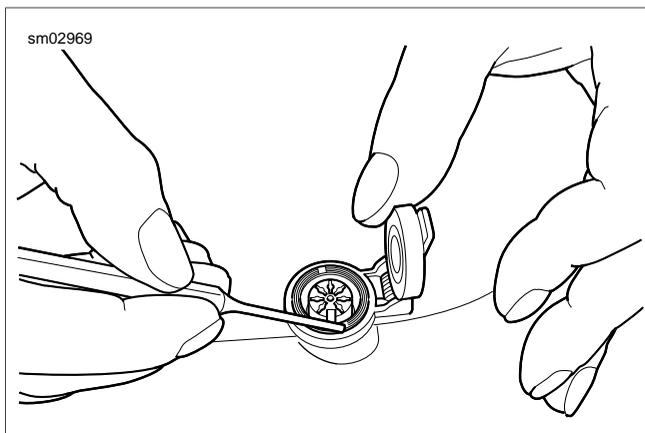

Figure 8-93. Remove Lock Ring from Receptacle
11. Raise headset receptacle cap. Place pin punch in either notch of lock ring and rotate in a counterclockwise direction until loose. See Figure 8-93.
4. Place pin punch in either notch of lock ring and rotate in a clockwise direction until tight. See Figure 8-93.